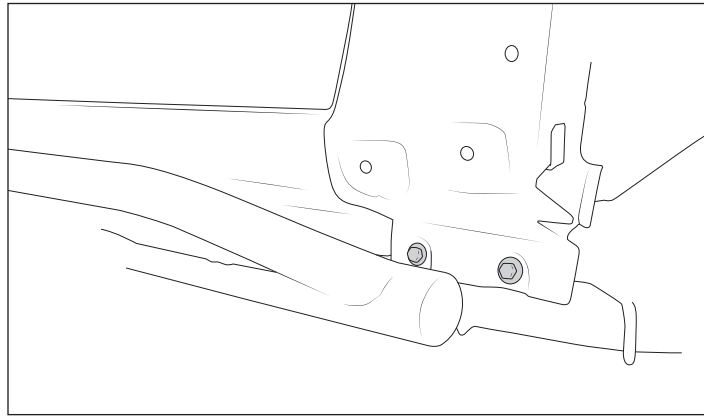

Figure 9
- c. Remove two lower attachment points (fig. 9).